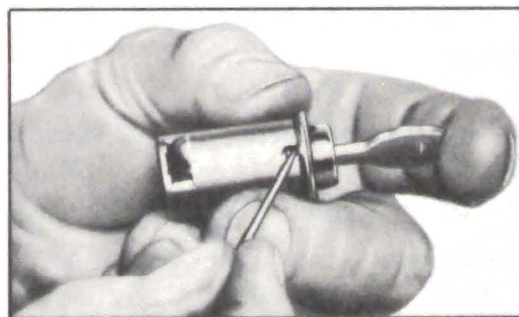

Figure 13-22—Removing Lock Cylinder
2. Insert a pointed tool into opening in lock barrel and push down and out on retaining tumbler (fig. 13-22) then remove cylinder.